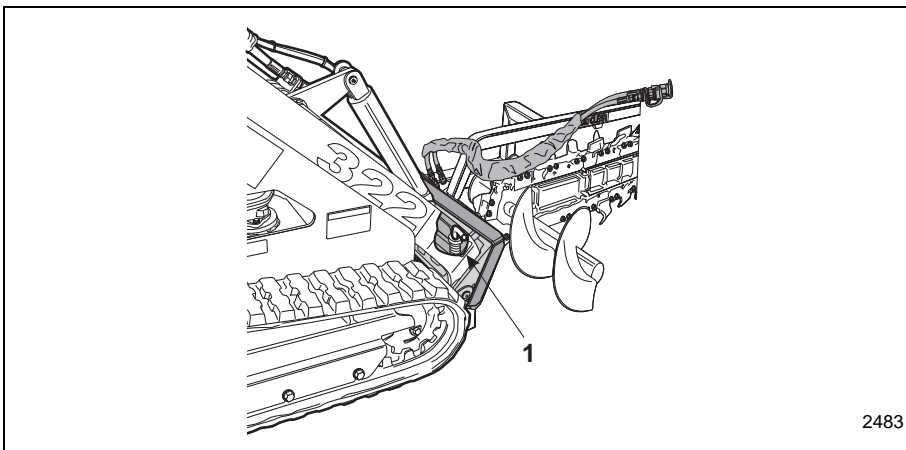
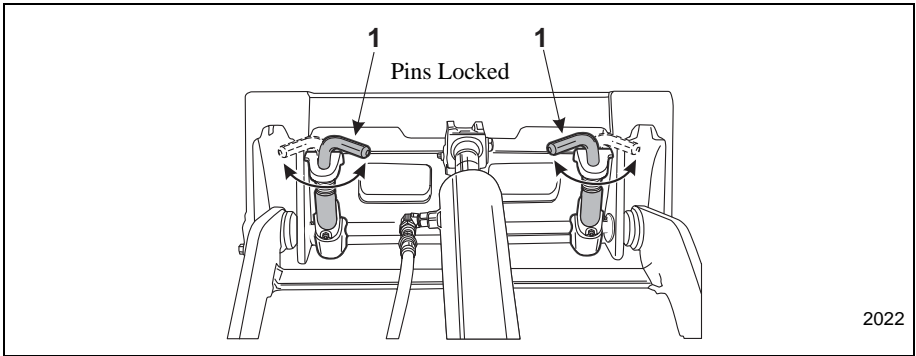

Figure 3-33 Hydraulically Powered Attachment Installed
Figure 3-34 Attachment Locks in Locked Position
4. When the machines mounting plates top edge is seated in the attachment mounting plate, curl the machines mounting plate backwards slightly to allow the lower edge of the machines mounting plate to slide into position. See Figure 3-33.
6. Rotate the attachment lock pins (Item 1, Figure 3-33, Item 1, Figure 3-34) into the locked position securing the attachment to the machine.